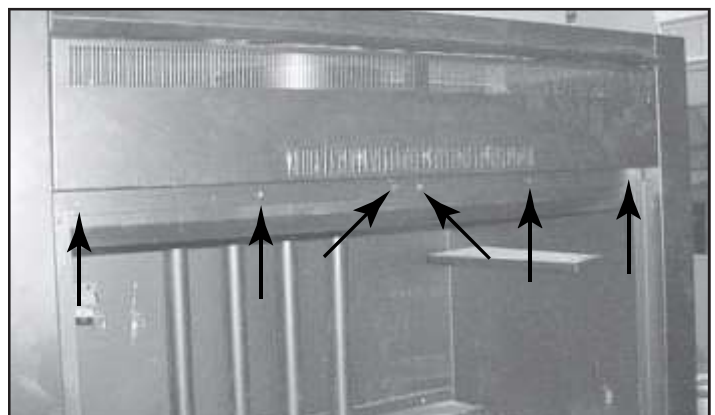

Figure 2 EM-42 Remove Upper Face
- EM-42 only** - Remove the six screws holding the upper face on unit and take face off unit. See Figure 2.